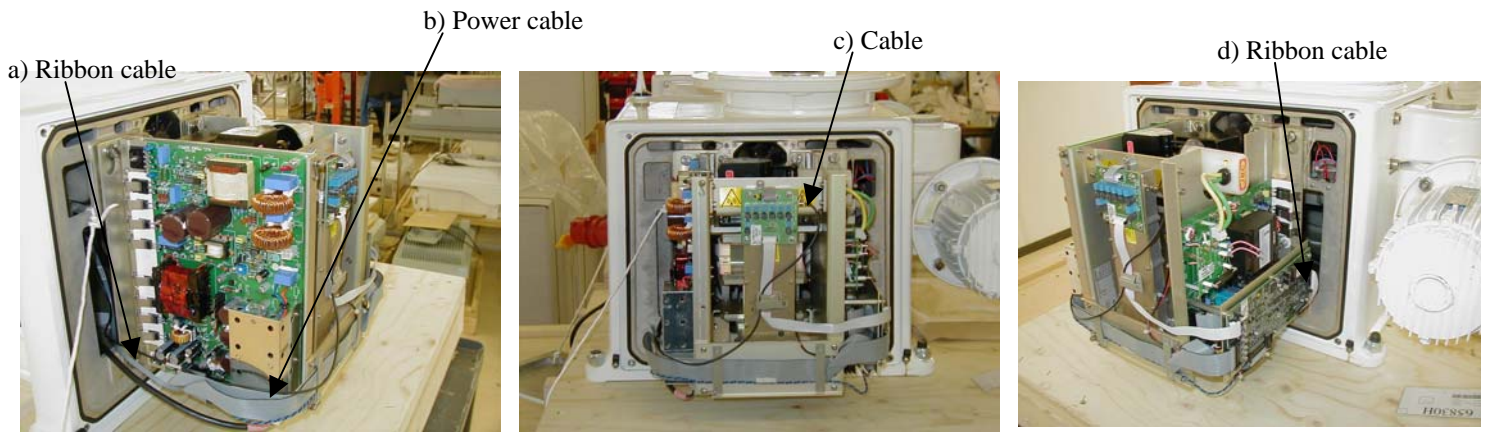

Figure 5 – Cables
8. Refit coax cable, (i), placing gasket, (k), item 3, between cable and transition and replace 2 off screws (j)
10. Re-fit 4 off cables (figure 5 a,b,c,d)